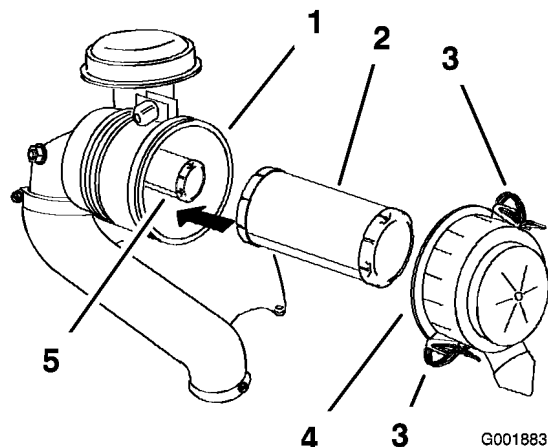

Figure 32
3. Release the latches on the air cleaner and pull the air cleaner cover off the air cleaner body (Figure 32).
5. Gently slide the primary filter out of the air cleaner body (Figure 32).
2. If the safety filter is being replaced, carefully slide it into the filter body (Figure 32).
3. Carefully slide the primary filter over the safety filter (Figure 32).
4. Install the air cleaner cover with the side indicated as **up** facing upward and secure the latches (Figure 32).